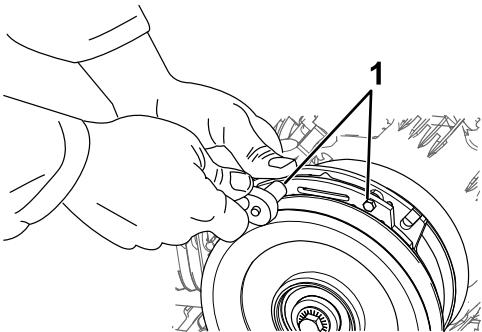

Figure 70
- A. Loosen both brake mounting bolts 1/2 to 1 full turn as shown in Figure 70.